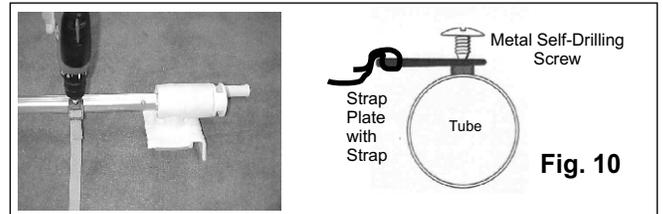

Fig. 10
- Attach strap plates to tube (see Fig. 10). **DO NOT pre-drill holes or over-tighten screws.**
For Reel Systems Placed at Pool End (Rectangular Pools) (Fig. 10)